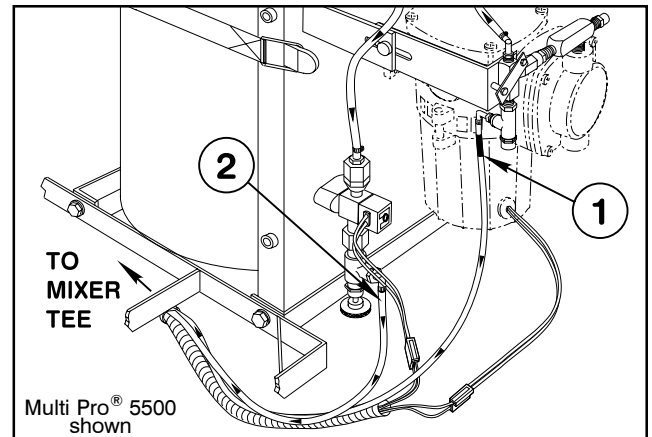

Fig. 8
19. Mark one 108" Supply Hose with a black marker at each end. Connect the marked Supply Hose to the hose barb at the compressor and the other Supply Hose to the hose barb on the Needle Valve. Secure with hose clamps. (Fig. 8)